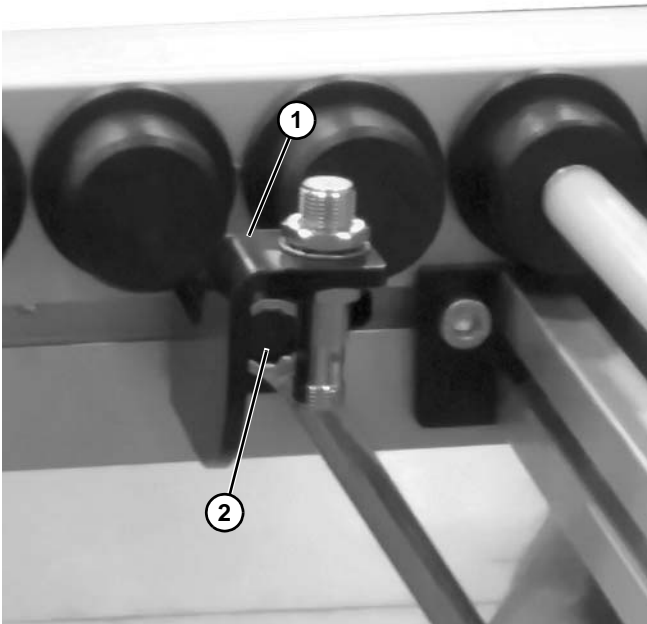

Figure 2
2. Attach sensor (**Figure 2, item 1**) to conveyor with bolt (**Figure 2, item 2**).